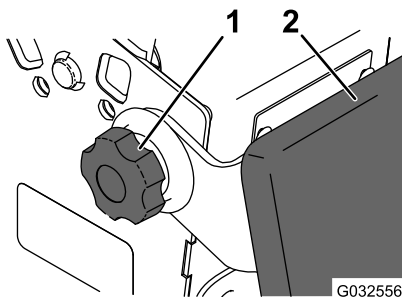

Figure 34
2. Loosen the twist knobs on each side of the machine (Figure 34).